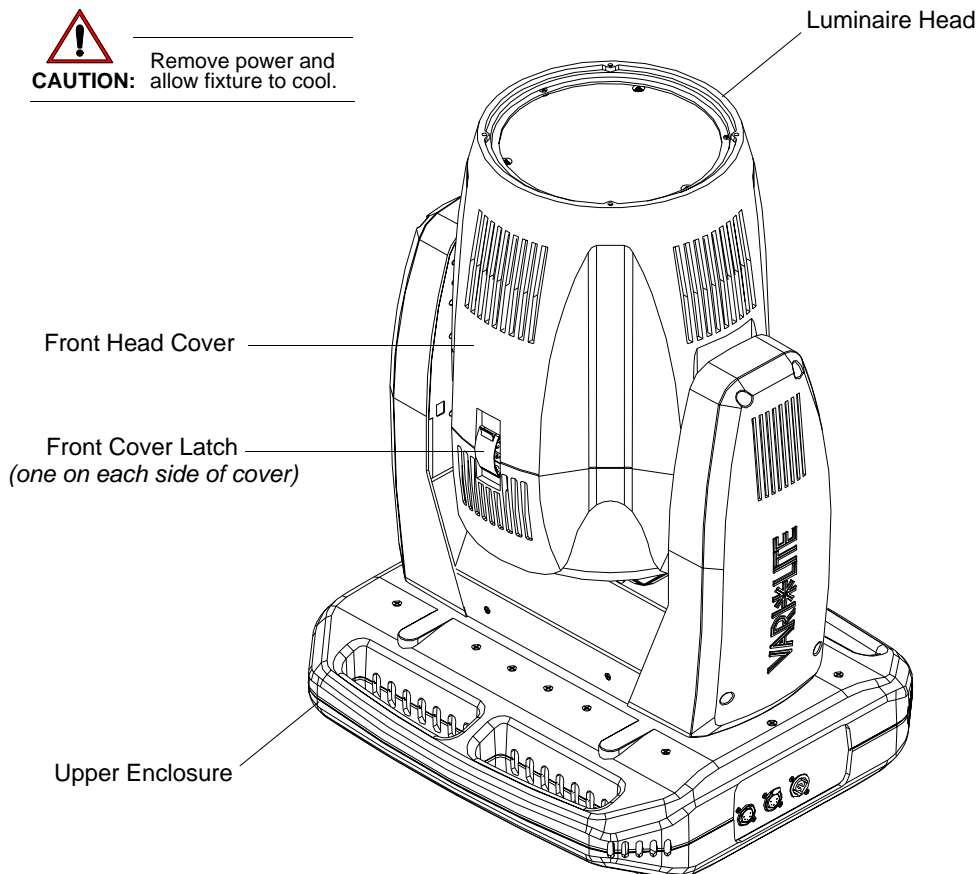

Figure A-2: VLX™ Wash Luminaire
- Step 2. Carefully set luminaire on upper enclosure, rotate head as shown in Figure A-2, and engage tilt lock.